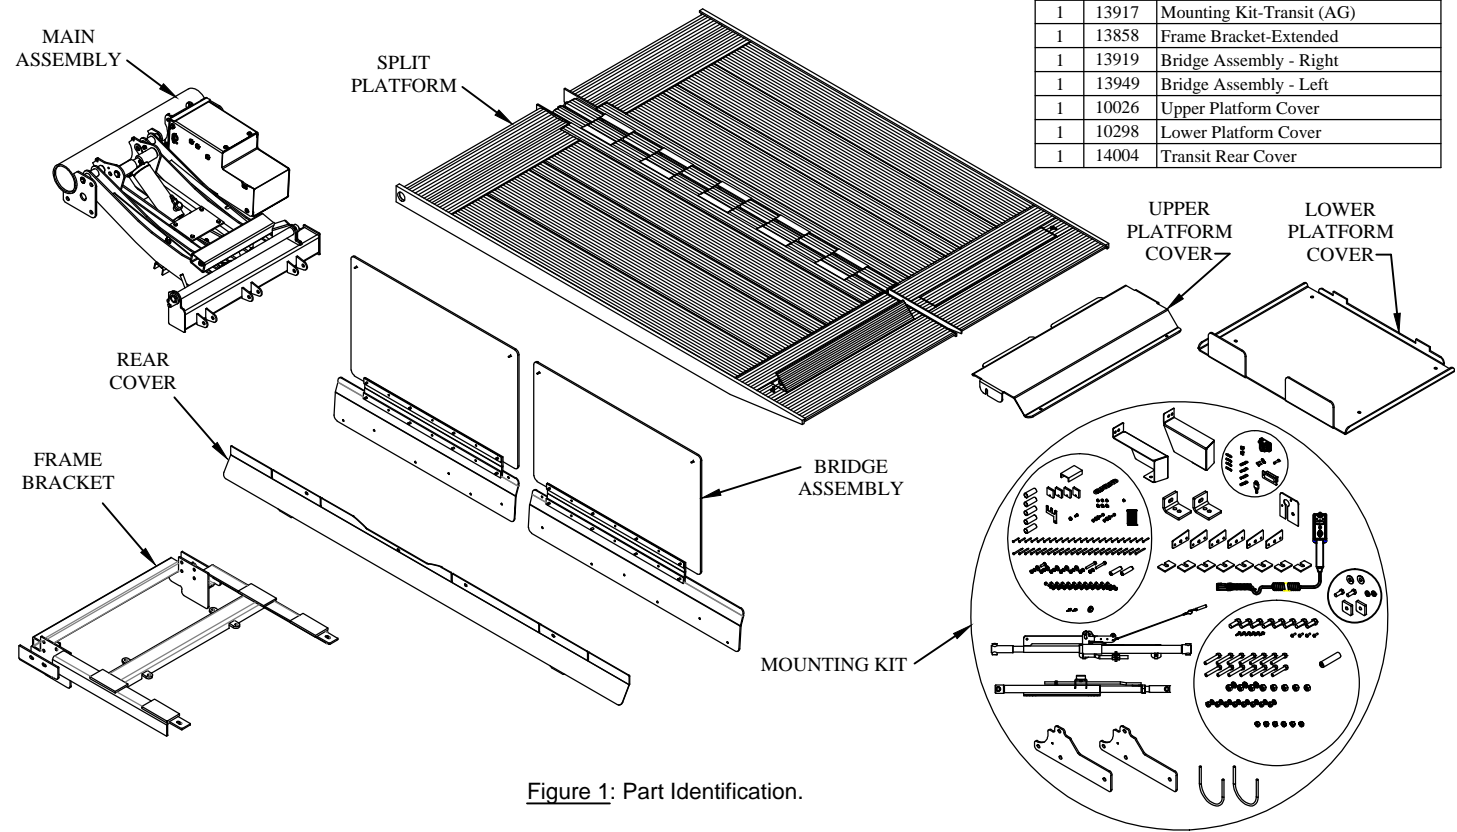

Figure 1: Part Identification.
- 2. **Verify** mounting kit, liftgate, and other components (Figure 1 and Table 1).